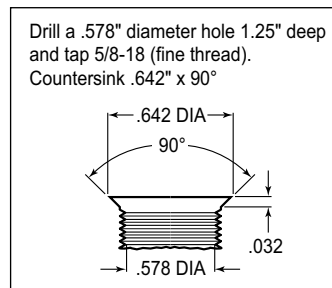

Figure 3. Drill and Tap Detail
**NOTE:** Some spindles in this year range may require the following modifications (reference Figure 1 and Figure 3): Top anchor pin hole (Z) must be drilled and tapped to the dimensions as outlined in Figure 3. The lower bolt hole (Y) in the spindle used to mount the new caliper bracket, and the mating steering arm hole, must be enlarged to .50" by drilling. It is recommended these modifications be performed by a qualified machinist.